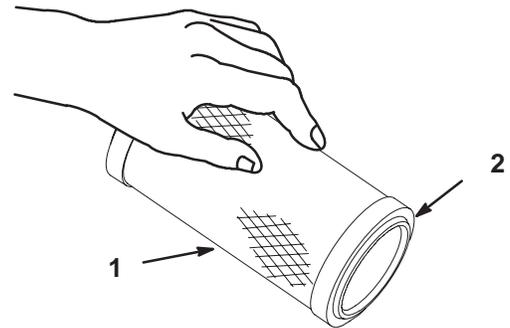

Figure 37
- A. Lightly tap the element on a flat surface to remove dust and dirt (Fig. 37).